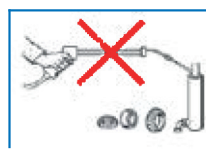

Figure 15
- Do not use high pressure water for the cleaning of bearing and hydraulic parts (Figure 15).